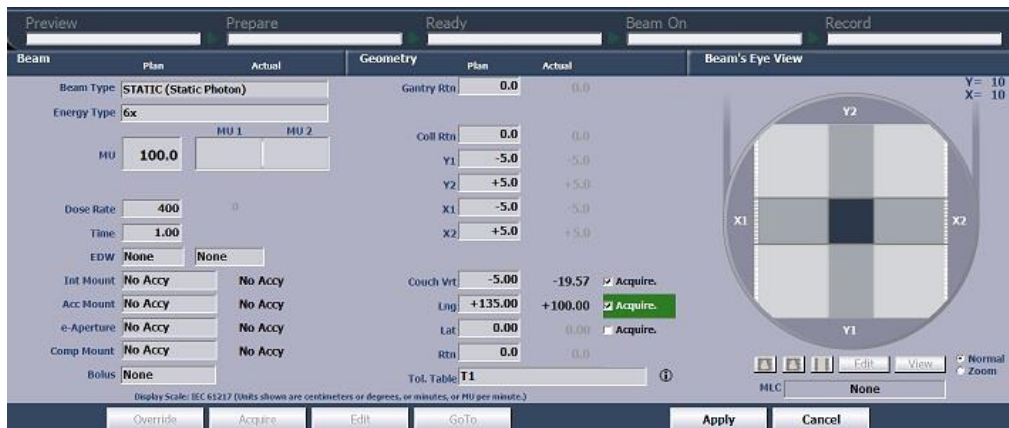

Figure 55: Acquiring Couch Positions
- Depending upon position, acquire new couch position as shown in Figure 55 and then click Apply to continue. Do not reposition Gating phantom outside NDI camera detection zone by moving couch. Click **OK** to the expected PVA error message that indicates changes to the couch positions in the selected field.